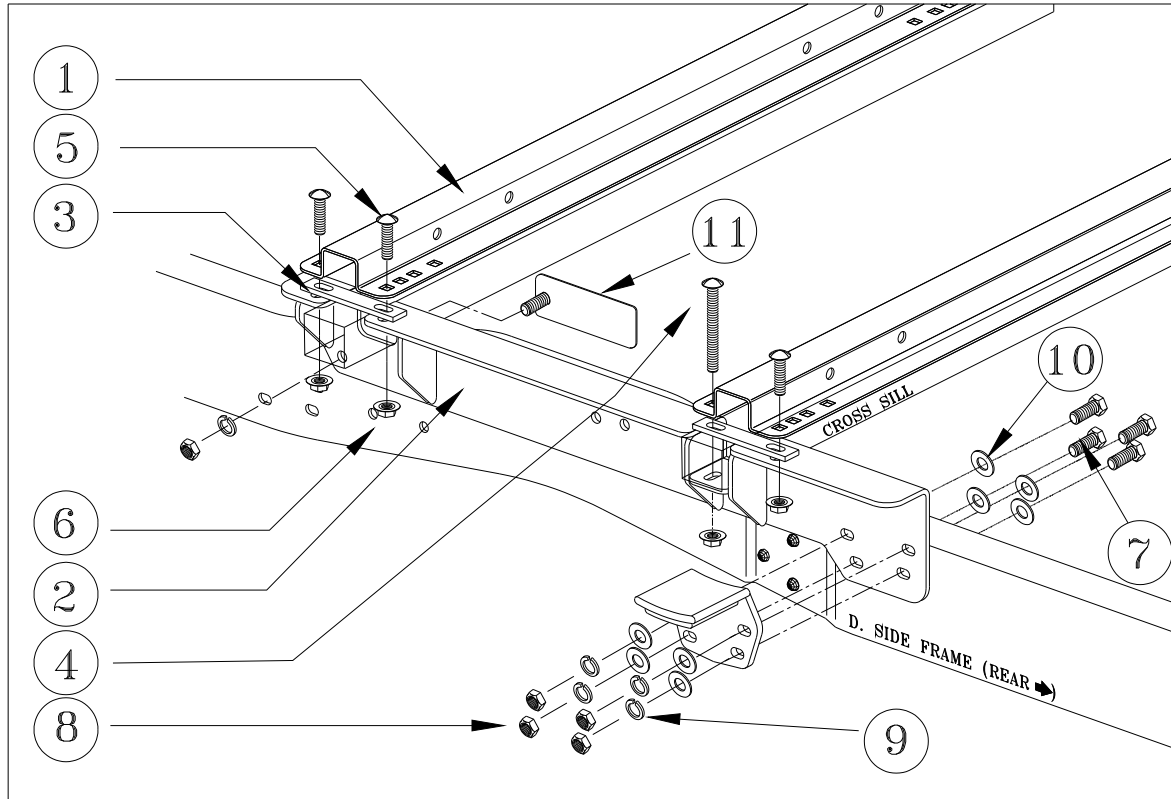
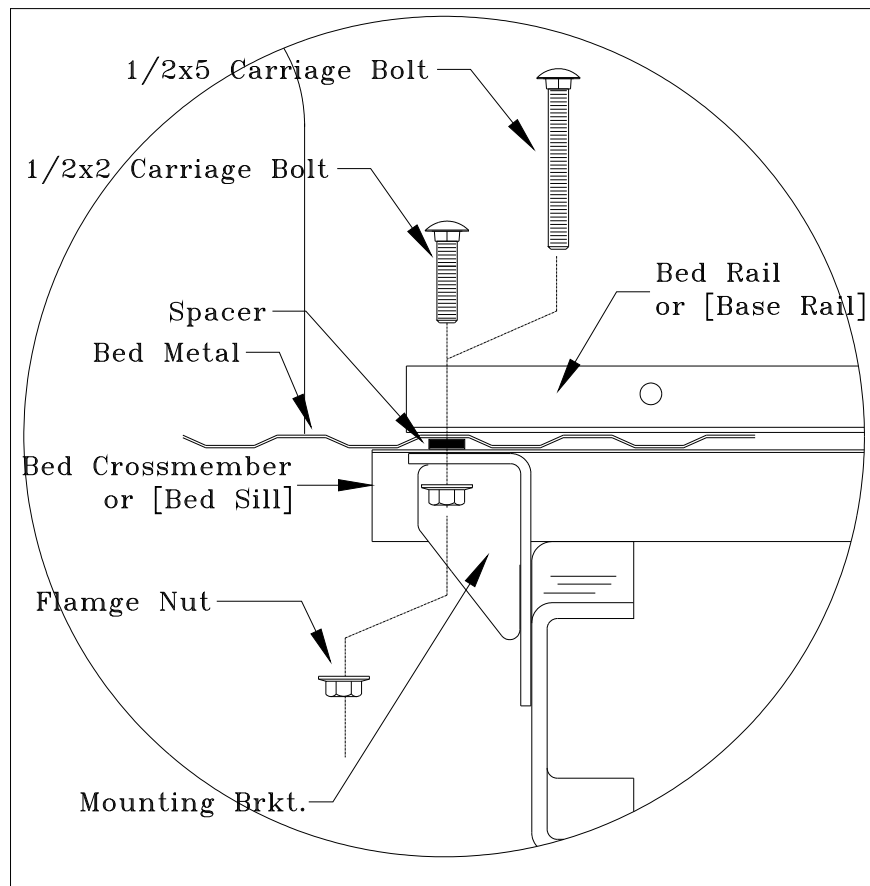

Figure 1
Figure 5
1. Install Bed Channel Spacers directly below the mounting holes drilled in the bed. These spacers will pass between the bottom of the bed and the top of the bed cross sills, see figure 5 on page 8. These spacers may have to be tapped into place with a hammer.
3. Referring to figure 5 on page 8 and the exploded view figure 1 on page 4, insert the six 1/2" x 2" Carriage Bolts through the Base Rail, bed and Bed Spacers.
4. Referring to figure 5 on page 8 and the exploded view drawing figure 1 on page 4, fit the Mounting Brackets over the Carriage Bolts and insert the 1/2" x 1 1/2" Frame Bolt through the forward hole in the Mounting Bracket and the frame. This hole will have to be drilled for 6 foot bed trucks while for 8' bed trucks there is an existing hole in the frame but is under sized and will need to be reamed out to 1/2". Because of the fuel tank located on the driver's side, the 1/2" Hex Bolt with Back-up Plate will have to be used. This will provide a handle with which to reach this difficult hole location and will also provide a means for "back-up" when tightening the fastener.
1. If the vehicle is equipped with over load springs, the same fasteners used to originally mount the over load bumpers can be used to fasten the rear of the Mounting Bracket and the over load bumper, see figure 1 on page 4. If the vehicle is not equipped with over load springs then the holes in the frame must be drilled out using a 1/2" drill bit.